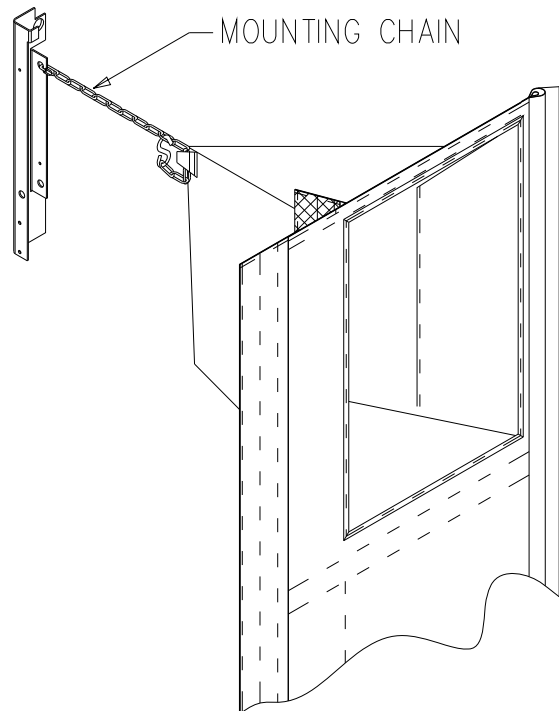

FIGURE 17
5. Finally, attach the side curtain pocket to the canopy installation chain (See Figure 17). First, run the "S" link part of the chain through the loop on the pocket